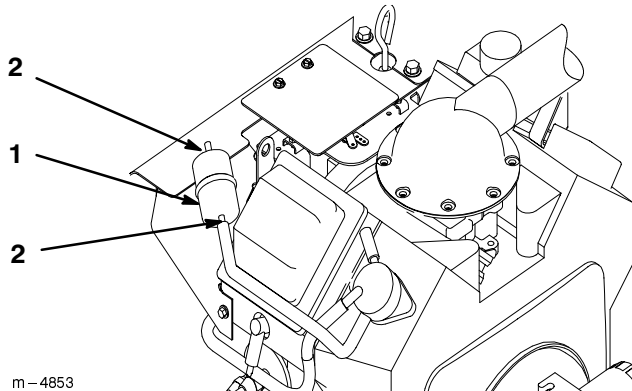

Figure 63
3. Squeeze the ends of the hose clamps together and slide them away from the filter (Fig. 63).